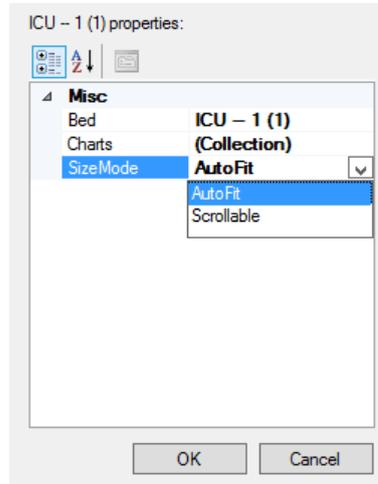

Fig 60
7. Click the “SizeMode” row to select either AutoFit mode or Scrollable mode for the chart (Fig 60).